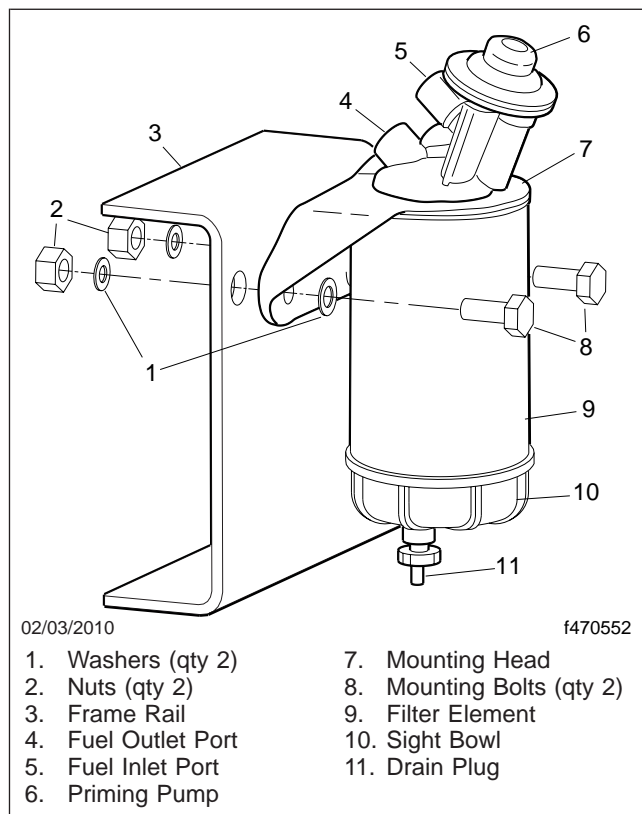

Fig. 11.9, Alliance Fuel/Water Separator Assembly and Installation
- 4.3 *Alliance/Racor Models:* Turn the drain plug counterclockwise to open it. See **Fig. 11.9**.